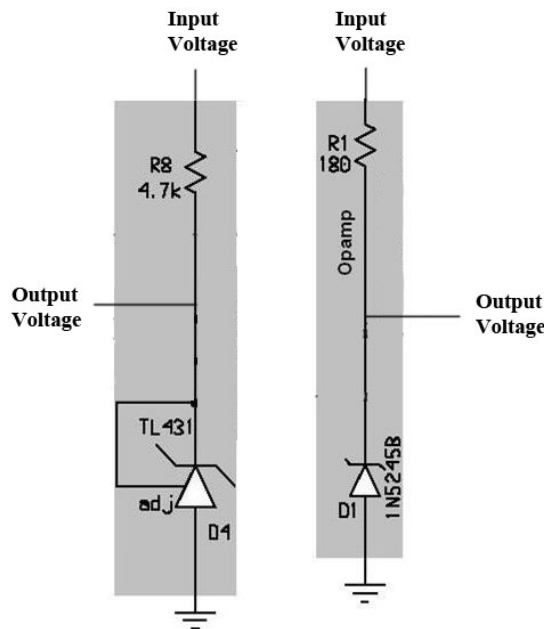

Figure 2.7: Reference and Op Amp Voltage Regulators
2. Use *Appendices B and C* to solder all of the parts needed (R8, R1, D1, and D4) for both the voltage regulator and the reference voltage regulator. All the four parts in the two regulator blocks must be installed for the regulators to function. See Figure 2.7 to make sure the regulators are built correctly.